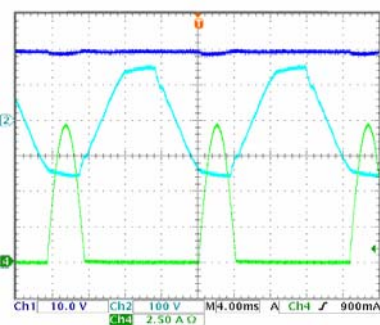

Figure 3-17 Negative
**Negative:** Using the power line frequency as the reference frequency for the load current, for the Negative setting, the negative half period of the power line is loading  $V_{source}$  (UUT). This load frequency is the same as power line frequency (please refers Figure 3-17). For example: power line frequency is 60Hz thus the load frequency of the current is 60Hz.